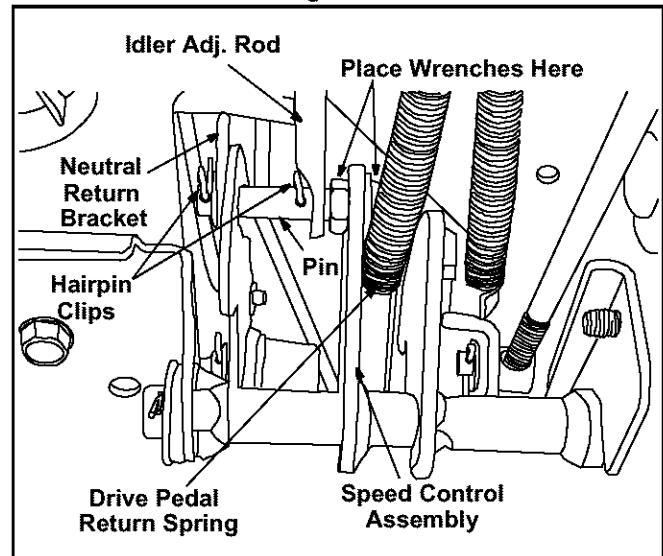

Figure 21
- Locate the speed control assembly on the underside of the steering support bracket. See Figure 21.
- Remove both hairpin clips from the pin which is fastened to the speed control assembly (be careful not to lose the small flat washers found on the pin). See Figure 21.
Using two 9/16" wrenches, remove the pin from the speed control assembly. See Figure 21.